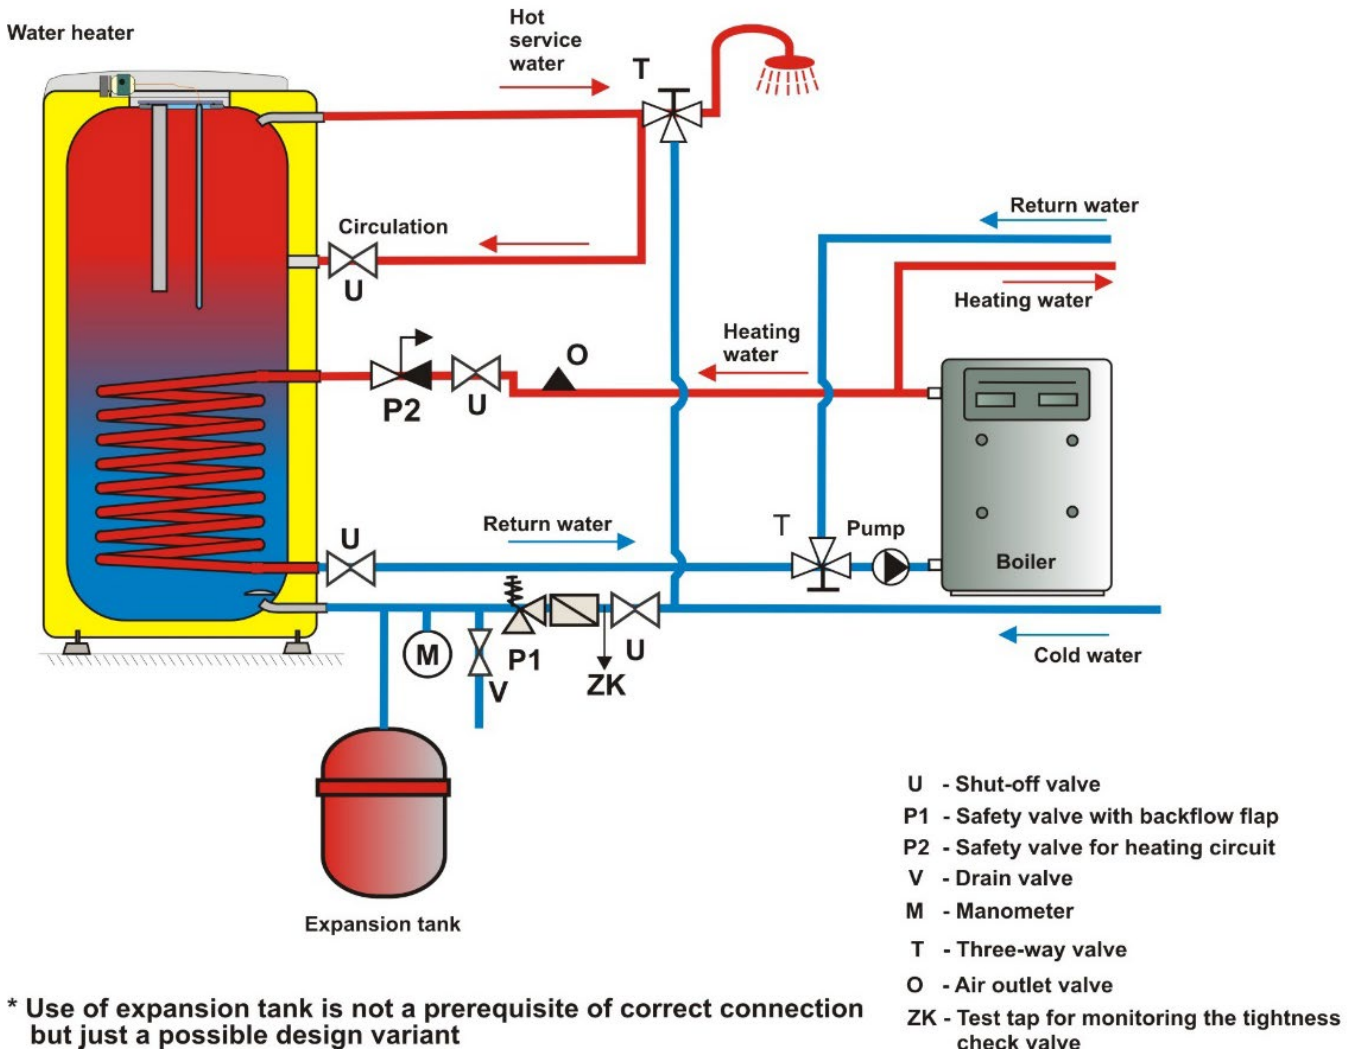
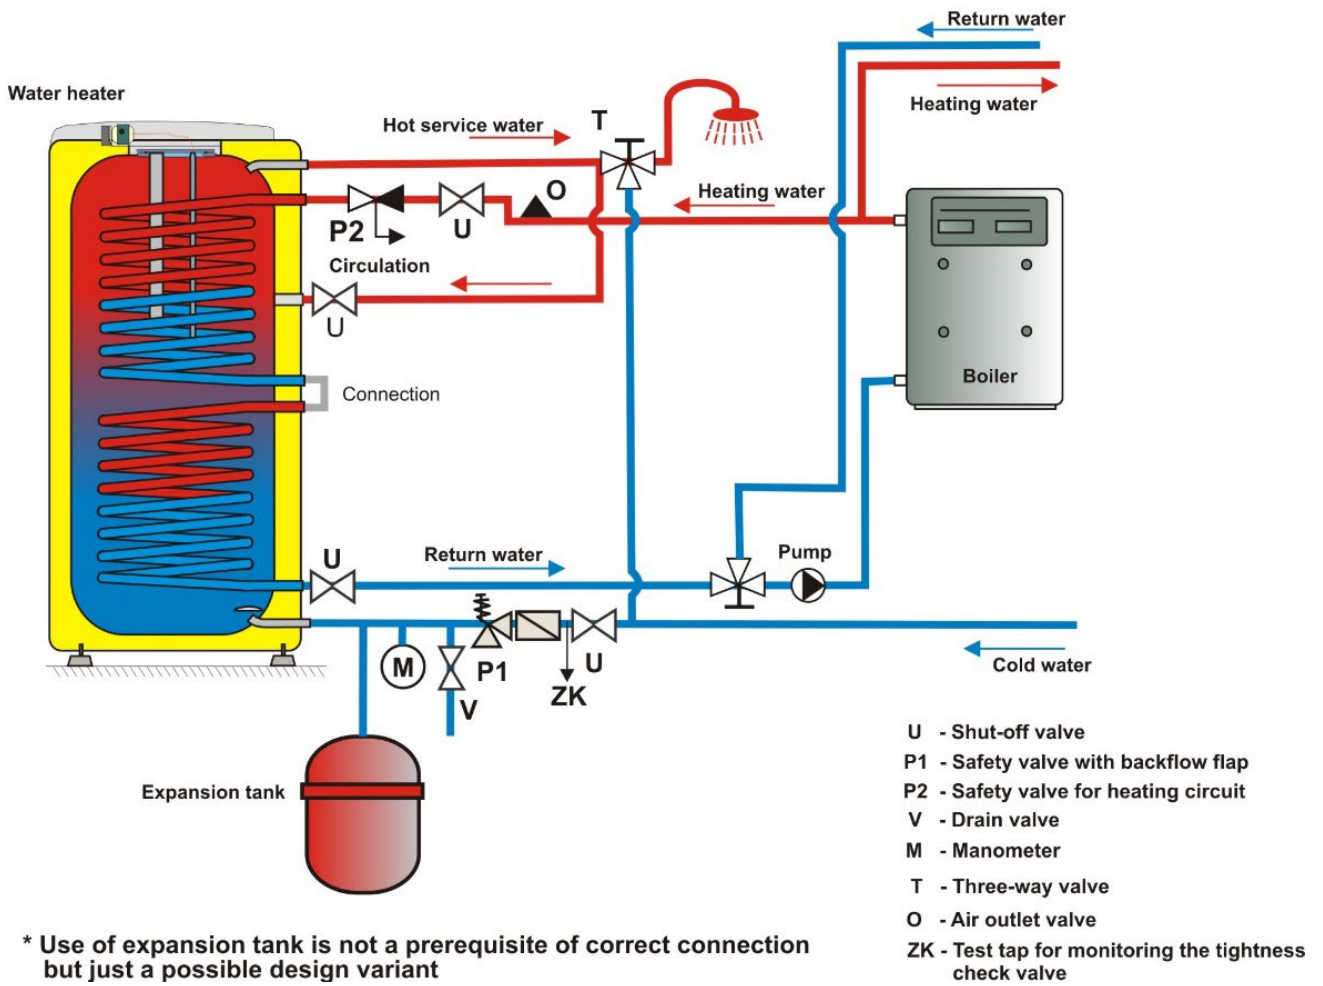
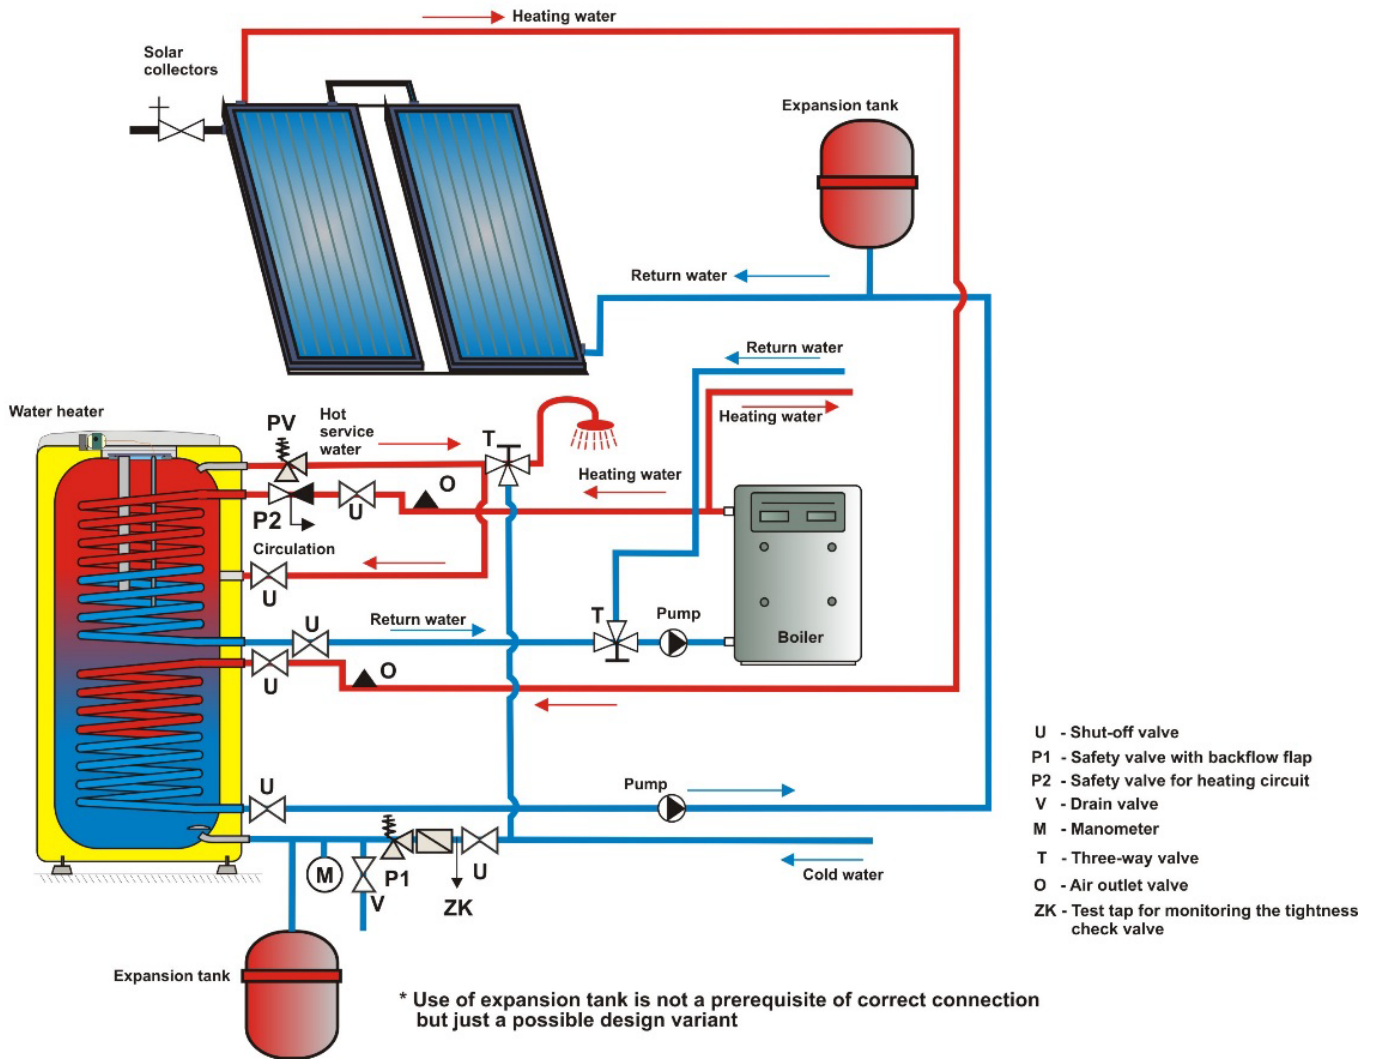

Figure 13
Figure 14
Figure 15
Connecting tanks to plumbing fixtures is shown in (Figure 12, Figure 13, Figure 14, Figure 15, Figure 16, Figure 17). For potential disconnection of the tank, utility water inlets and outlets must be provided with Js 3/4" screw coupling. If the hot utility water (HUW) distribution is equipped with circulation circuit, the reverse pipe is connected to the inlet identified as CIRCULATION. Types 100, 125, 160 NTR and 100, 125, 160 NTR / HV are equipped with a drain outlet. A "T" plumbing with a drain valve has to be mounted in type 200 and 250 NTR(R) on the HSW inlet. The tank shall be equipped with a safety valve to ensure the operation. The safety valve is mounted on the cold water inlet identified with a blue ring. We recommend that the hot water distribution from the heater was as short as possible to minimize heat losses. Tanks must be provided with a discharge valve mounted on the cold service water inlet into the heater for potential disassembly or repair.